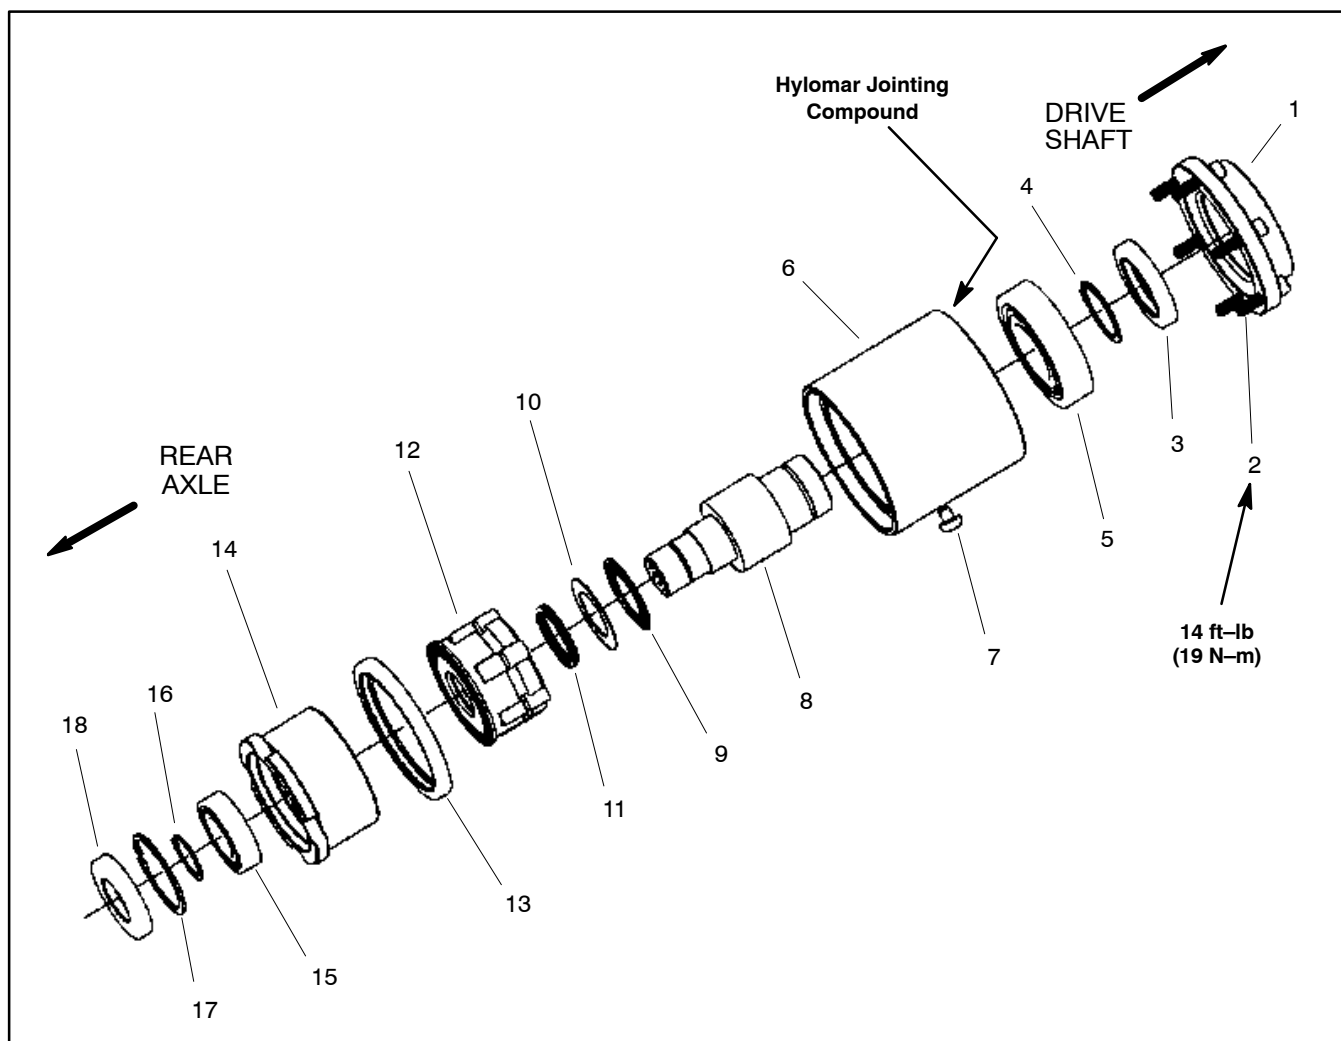

Figure 35
Disassembly (Fig. 35)
2. Disassemble clutch using Figure 35 as a guide.
Assembly (Fig. 35)
2. Assemble clutch using Figure 35 as a guide.
4. Apply Hylomar Jointing Compound (or equivalent) to end plate (item 1) mating surface before installing end plate.
5. Secure end plate with six (6) socket head cap screws. Torque screws 14 ft-lb (19 N-m).